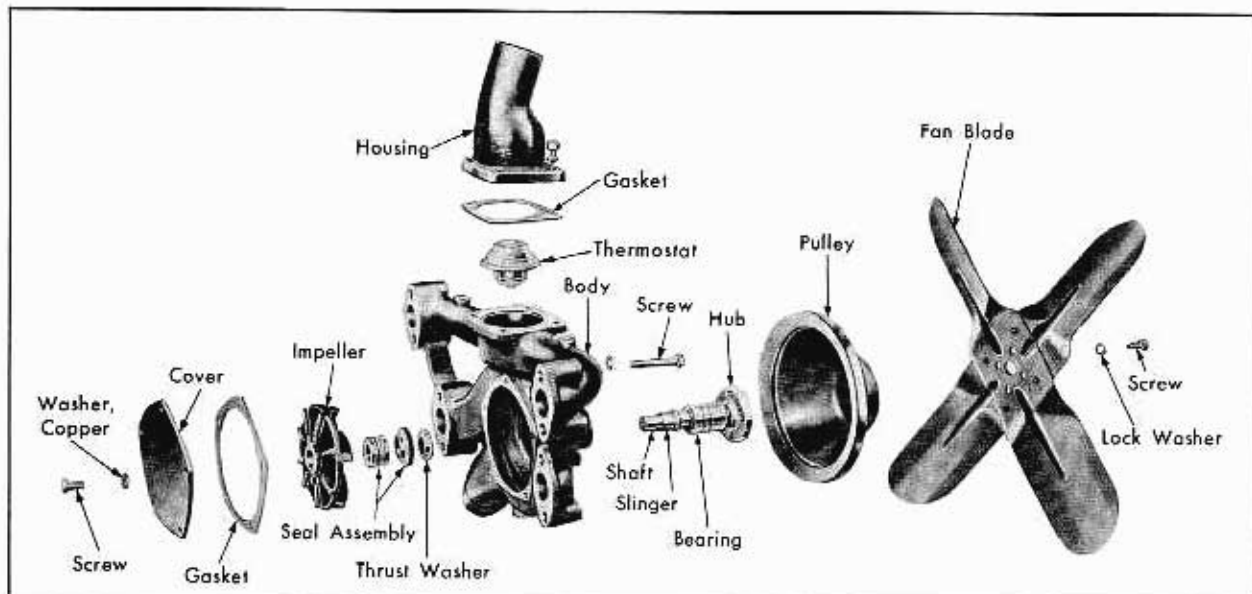

Fig. 13-8 Water Pump - Disassembled
1. Brush gasket cement on water pump inlet and outlet flange surfaces and place new gaskets in position on pump, Fig. 13-8.